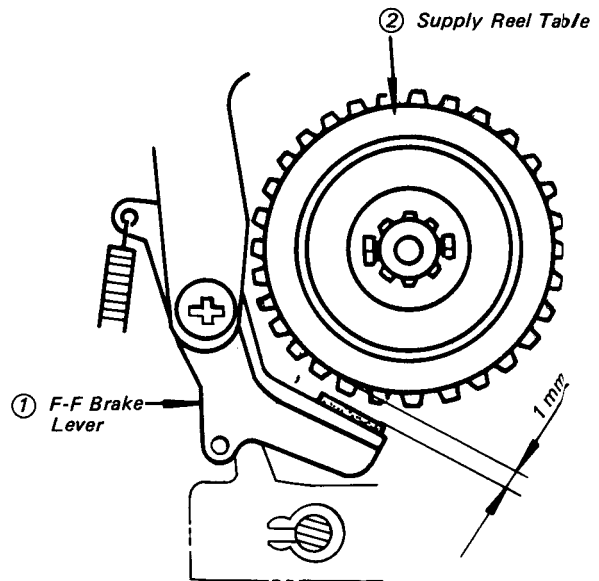

Fig. 5-69 Clearance Required Between End of F-F Brake Lever and Supply Reel Brake
22-1. Checking (see Figs. 5-69, 5-70)
5. Also, make certain that there is clearance 1 mm between the surface of the F-F brake lever ① and supply reel table ② (see Fig. 5-69).